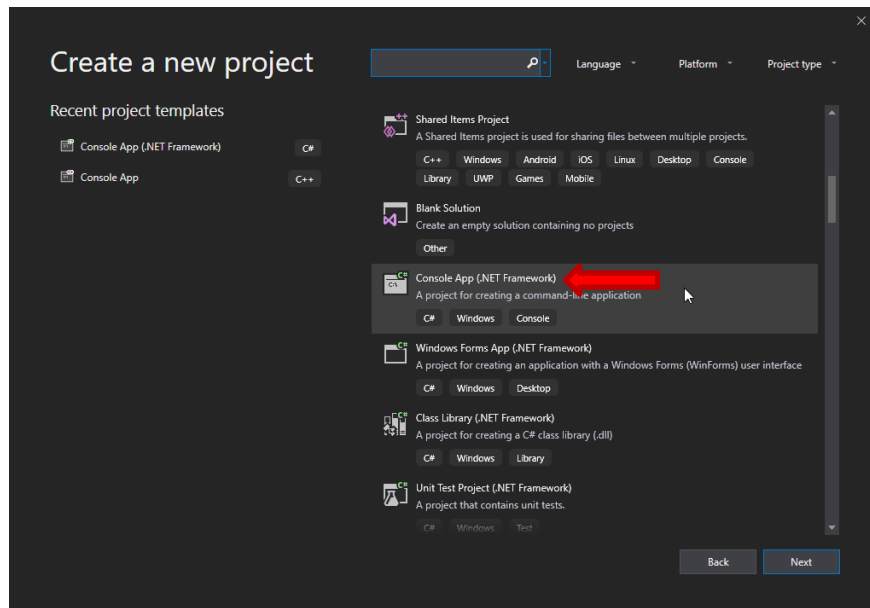

Figure 43 - VS2019 New Project C#
- 1) Open MS Visual Studio 2019 and start a new C# Console Application for the .NET Framework 4 per Figure 43 - VS2019 New Project C#.